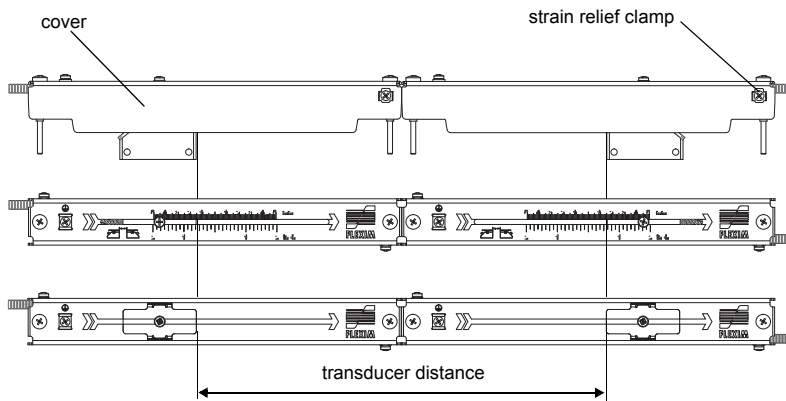

Fig. 8.25: Adjusting the transducer distance
- Adjust the transducer distance displayed by the transmitter (see section 10.6 and Fig. 8.25).
- Fix the cables of the transducers with the strain relief clamp to protect them from mechanical strain (see Fig. 8.25).